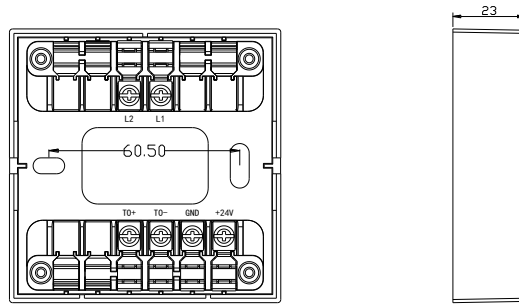

Fig.2 Base of the ATL-952 Module
1. Terminal description for the ATL-952 module (see Fig.2)
4. Use two M4 screws to fix the module base via the two elliptic screw holes shown in Fig.2, then insert the main body of the ATL-952 module into the module base and make sure they contact each other properly.